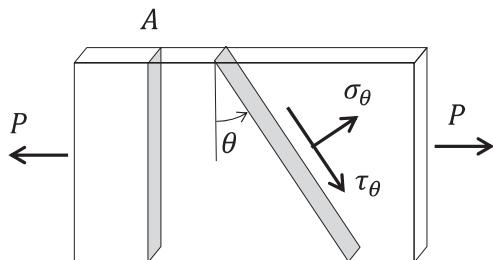

Figure 1
1. Suppose that a uniform and flat plate specimen with a cross-sectional area of  $A$  is subject to a uniaxial tension with a load,  $P$ , as shown in Figure 1. Answer the following questions assuming that the stress is uniform.
- (1) Derive the magnitude of the normal stress,  $\sigma_\theta$ , and the magnitude of the shear stress,  $\tau_\theta$ , acting on the plane inclined by the angle,  $\theta$ , from the cross section of the specimen as shown in Figure 1, as functions of  $\theta$ . Also, derive the maximum value of  $\tau_\theta$ .